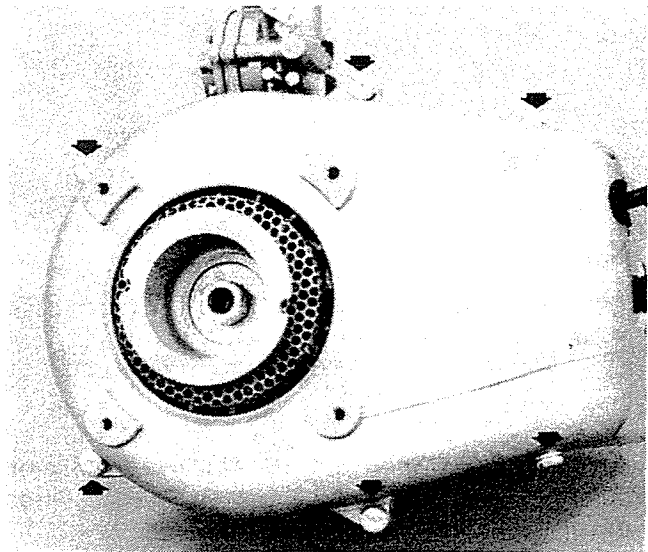

Figure 3. Removing Fan Housing.
1. Remove fan housing assembly by removing six (6) screws. Figure 3.